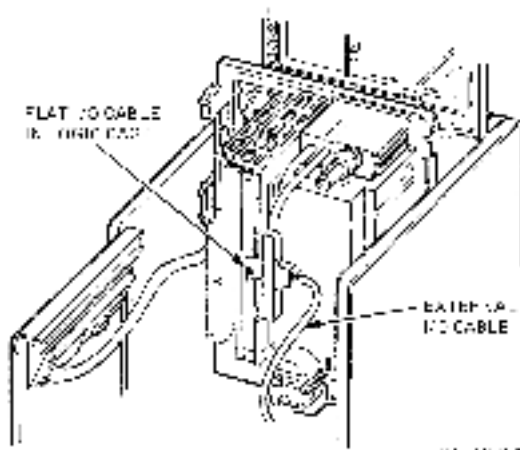

Figure 2-4 External I/O Cable Connection to the Logic Cage
1. On the TUSI, open the rear door and free the external I/O cable (P/N BC17Y-20). The TUSI is shipped with this cable plugged in and secured in the socket on the logic cage panel (Figure 2-4). The flat ribbon cable connects the external I/O cable to the TMSOP interface controller module inside the logic cage.